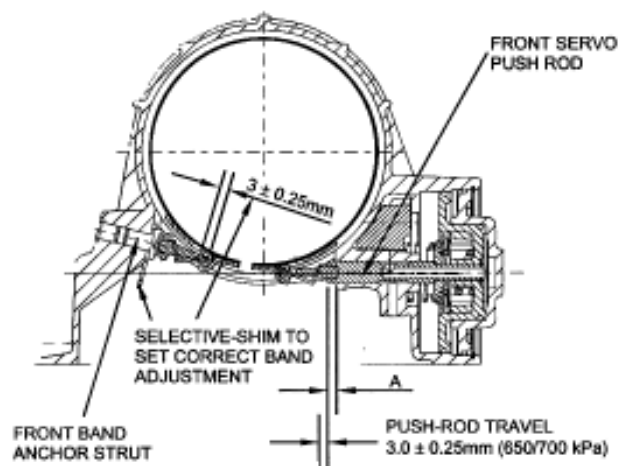

Figure 8.62 Setting of brake belt
- a. For the calculating method of front servo mechanism thrust lever refer to Figure 8.62, dimension; standard A.
- ③ Release air.
- ① Check the shim for damage, worn or corrosion; replace it if necessary.
- ② The shim is installed on the support surface between the transmission and pole flange, refer to Figure 8.62.
- ③ Install the shim by hand, and not the hammer or pressure.
- ④ Press the shim by hand until has the click the noise. The noise means the shim is clamped by the housing correctly.